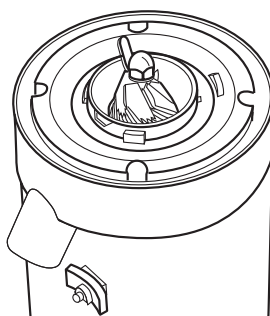

Figure 13
6. Clean the bottom burr using the burr-cleaning brush, see figure 13.